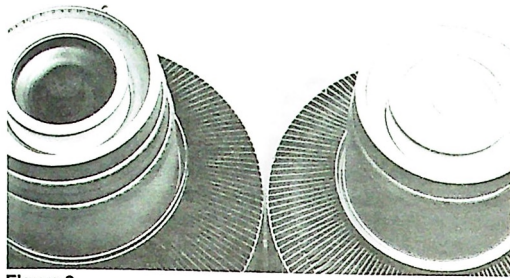

Figure 2
Look for discoloration around the top of the cooler near the anode core and at the bottom of the tube stem where the filament contacts are made. Review Figures 2 and 3 for examples of a tube operating with inadequate cooling. It is possible for discoloration to appear in the areas mentioned if the transmitter has to operate in a dirty environment. If this is the case, the tube should be removed and cleaned with a mild detergent. After cleaning, the tube should be rinsed thoroughly to remove any detergent residue and blown dry with compressed air. If the discoloration remains, this is an indication that the tube has operated at too high a temperature. Check inlet and outlet air ducting and filters for possible air restriction. It may also be necessary to verify that the air blower is large enough to do the job in the present environment and that it is operating at rated capacity.
*Fig. 2. Improper cooling means short tube life (left). Discoloration of metal around inner filament stem and anode fins indicates poor cooling or improper operation of tube. Properly cooled and operated tube (right) shows no discoloration after many hours of use. In both cases, good socketing is indicated by scoring on circular connector rings.*